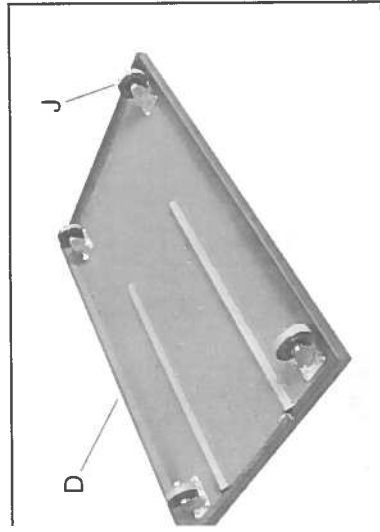

Fig. 1
the base plate (D) upside down and attach the four casters (J) to the holes, tighten with the wrench and screws (see Fig. 1)